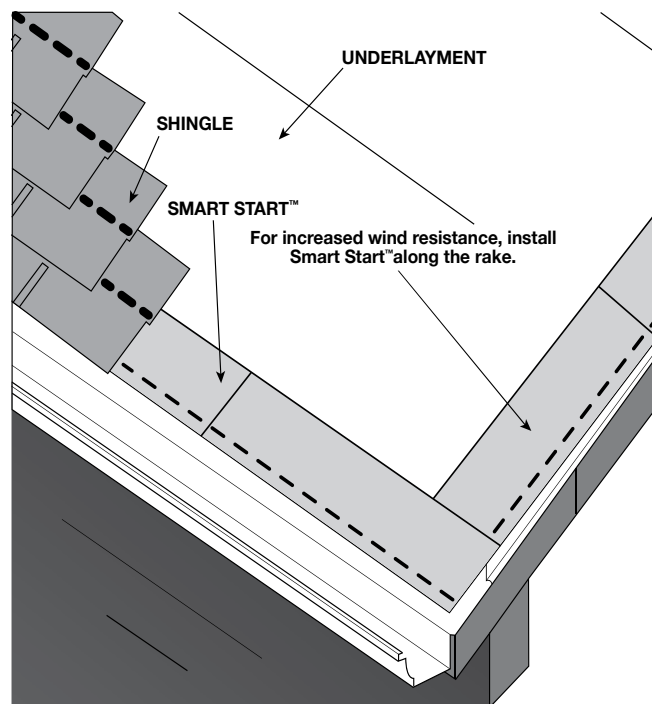

Figure 43 - Application of Smart Start™ along the Eave and Rake Edges of Roof
Fasten with four (4) nails placed 1 1/2" - 3" (38-76 mm) back from the roof edge: one (1) nail 1" (25 mm) from each end and the other two (2) evenly spaced on the same line as the end fasteners. Do not place fasteners in the seal-down strip. No staples. (See Figure 43)